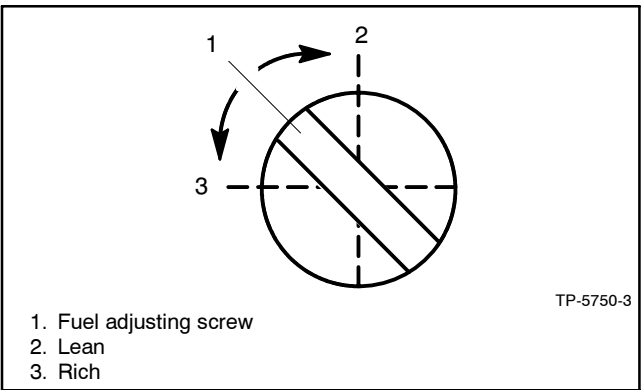

Figure 3-10 Fuel Mixture Adjustment, Typical
2. Adjust the engine fuel mixture screw (Figure 3-10) until the engine runs smoothly.